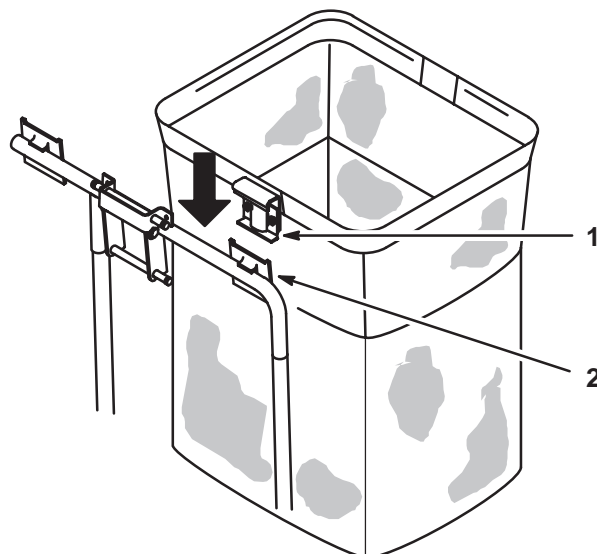

Figure 27
5. Install the bags by sliding the bag frame hooks onto the retaining brackets (Fig. 27).